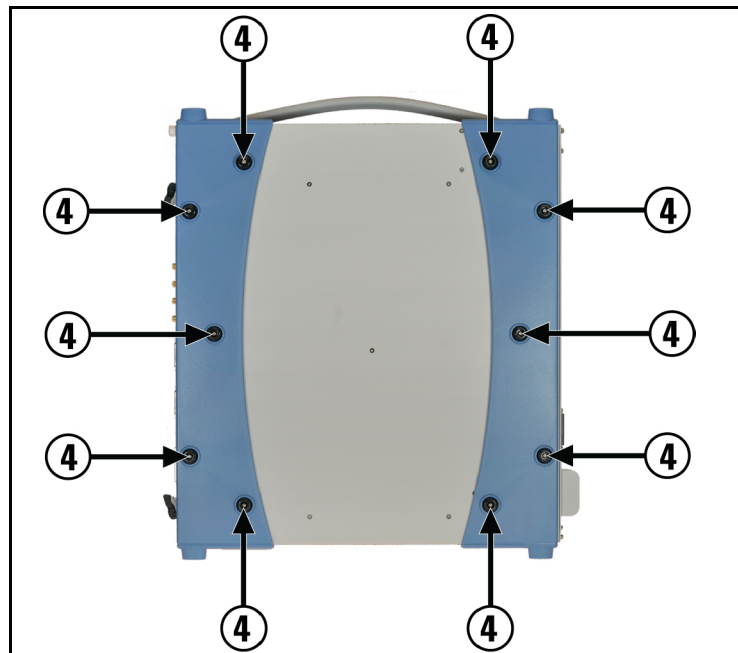

Figure 3 . Removing the Chassis Bumpers
- 4 Carefully turn the chassis onto its top. Remove the four plastic feet from the bottom of each bumper. Each foot is attached to the chassis through the bumper with a small #2 Phillips screw retained at the back of the foot with a plastic washer. Loosen each screw just enough to disengage it from the chassis. The foot, screw and washer will remain intact. See Figure 3.